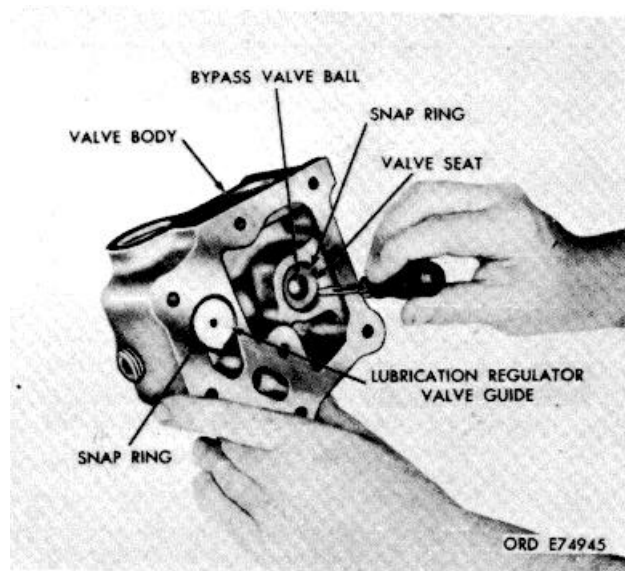

Figure 7-54. Removing for installed cooler bypass valve snapping.
- a. Remove retaining ring (74), guide (76), spring (78) and valve (80) from lubrication regulator valve body (84).
- b. Remove retaining ring (82) and regulator valve seat (83) from valve body (84).
- c. Remove the snapping (fig. 7-54), the ball check valve seat and the cooler bypass valve ball.
a. If plug (85) was removed from valve body (84), install a new replacement part.
b. Install cooler bypass valve spring (81) onto seat (79). Install the spring and seat, spring end first, into the valve body.
c. Install bypass valve ball (77).
d. Install bypass valve seat (75), chamfered inside diameter side first, into valve body (84).
e. Install retaining ring (74).
f. Install lubrication regulator valve seat (83), flat side first, into valve body (84).
g. Install retaining ring (82).
h. Install lubrication regulator valve (80), large end first, and spring (78).
i. Install valve guide (76), small diameter first, onto valve (80) and against valve spring (78) in valve body (84). Secure guide (76) with retaining ring (74). Refer to figure 7-54.